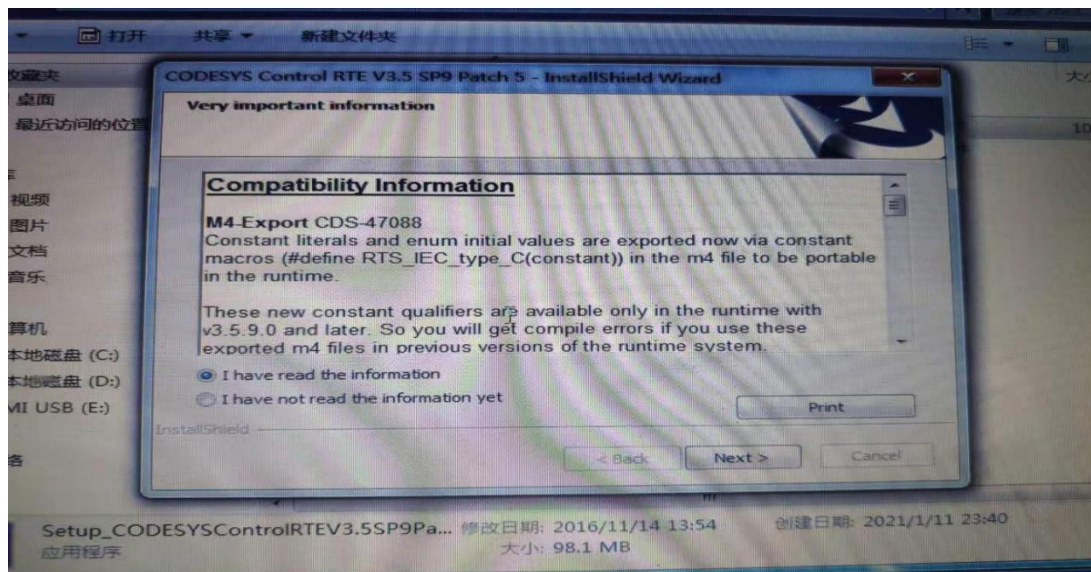

图 2-2-11 CodeSys RTE 安装步骤 11
11、出现图 2-2-11 窗口,选择“I have read the information”,点击“Next”;